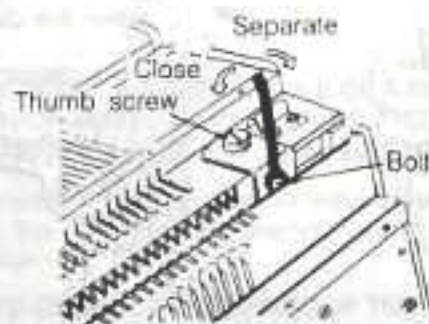

Fig.4
1.3 Distance between two beds. (See Fig.3 and Fig.4.)